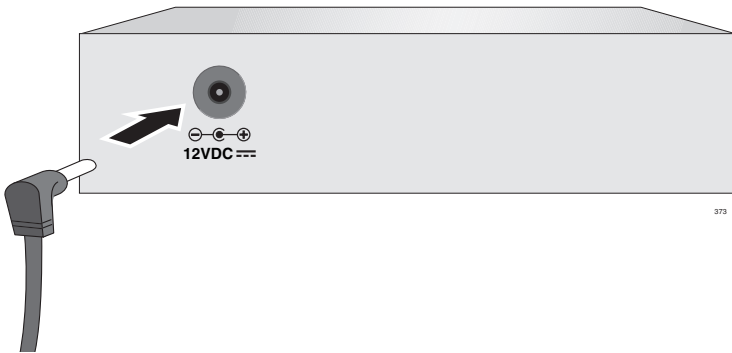

Figure 22. Connecting Power Cord to an AT-MC1008 Series AC Powered Chassis
2. Plug one end of the power cord to the power receptacle connector labeled 12VDC, as shown in Figure 22.